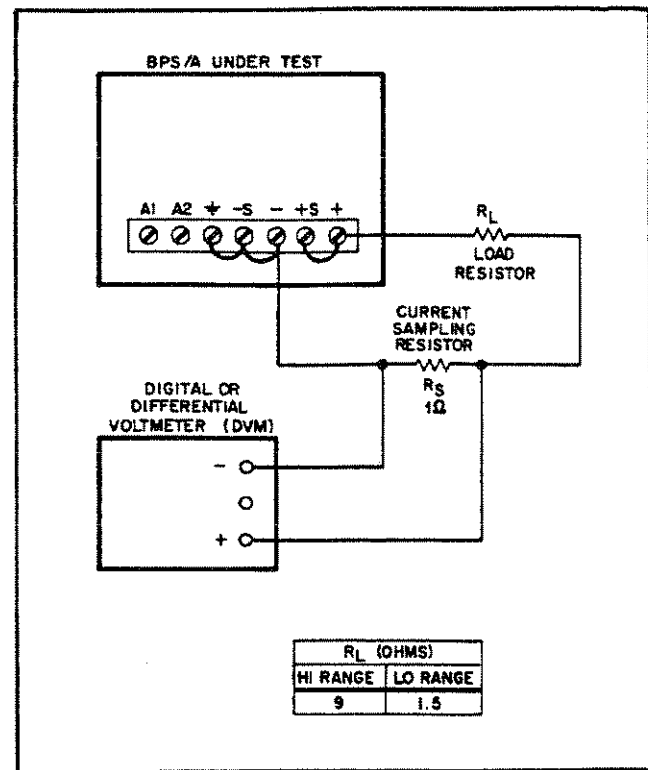

Figure 5-10. Constant Current, Test Setup
- Connect test setup shown in Figure 5-10. Use high range load resistor ( $R_L$ ) connected in series with the  $1\Omega$  resistor ( $R_S$ ).